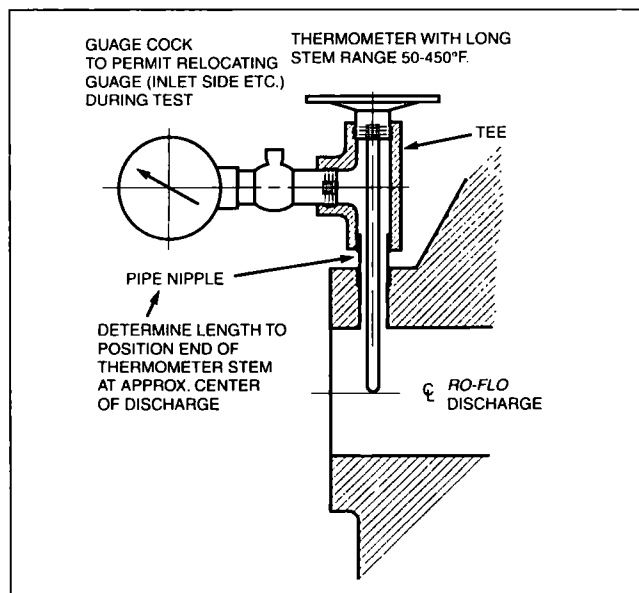

FIG. 9 — Typical pressure gauge and thermometer installation.
- Gauges and thermometers at or within several feet of the inlet and discharge flanges are an absolute necessity for every compressor to determine how it is actually operating. Figure 9 illustrates one typical method of installing gauges and thermometers and also shows the importance of having a temperature probe reach into the center of a gas stream.
Discharge temperatures - This is the most important indication of how well the compressor is operating, hence should be noted **not only during start-up checks but periodically during normal operation**. To be valid, a temperature indicator must be at or within one foot from the discharge flange and additionally extend into the center of the gas stream (see Fig. 9; Page 9). Temperatures are then compared with the discharge temperatures which should normally exist with identical gas having the same conditions of: